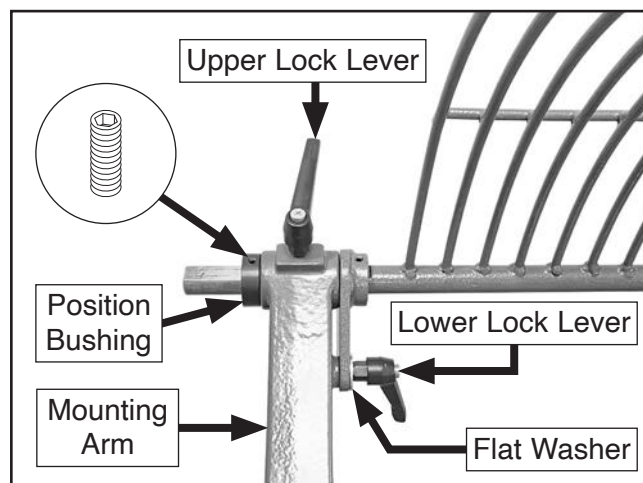

Figure 22. Location of chuck guard components.
7. Remove lower lock lever and flat washer, loosen upper lock lever, then insert chuck guard through headstock mounting arm (see **Figure 22**).
8. Install lower lock lever and flat washer (see **Figure 22**).
9. Install position bushing on chuck guard and tighten set screw to secure (see **Figure 22**).